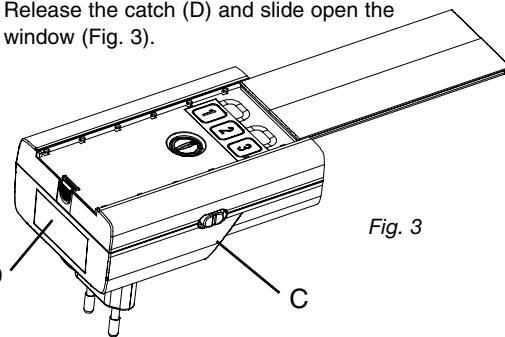

Fig. 3
Release the catch (D) and slide open the window (Fig. 3).